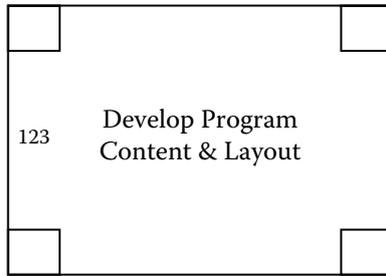

Figure 8.10 Each activity has a unique identifier (UI).
“We will be using these 3 × 5-inch Post-Its (hold up a pack) to write out our activities. Each Post-It will represent a deliverable. Please follow this format for your Post-Its. Write the activity’s description in the center of the Post-It. Give each activity a unique identifier (UI) and write it to the left of the description. The UI is simply a whole number with at least three digits (suggest beginning with 100) (Figure 8.10). This number has no meaning other than a unique number for its activity (much more on the UI later). Also, please do not write in the boxes in the four corners; they are reserved for activities schedules. Use the felt-tipped pins provided and write your descriptions as neatly as possible — others will need to read them. The activity description is a complete sentence — a verb and a noun. The noun for your activity comes from the deliverable on the PBS. The verb is your choice. You need to use a verb that is appropriate for the noun and of a correct size. The concept of “size” was never part of your English lessons but it has meaning here. If your deliverable is “specification” (an example of a process deliverable), you can define it with either one or multiple activities. You can either use a series of activities with verbs such as, write, edit, print, hole punch, distribute, or you could have a single activity with a “large verb” such as “publish specification.” In this context, the verb “publish” is a very “large verb.” The verbs and the number of activities needed per deliverable are your choice. However, remember each activity you develop will become part of the project plan and will require your tracking and reporting (the accountability part of authority). Also, if the noun has a modifier (an adjective), include it on the Post-It. The activity description on the Post-Its should have both verb and noun — not just the verb.